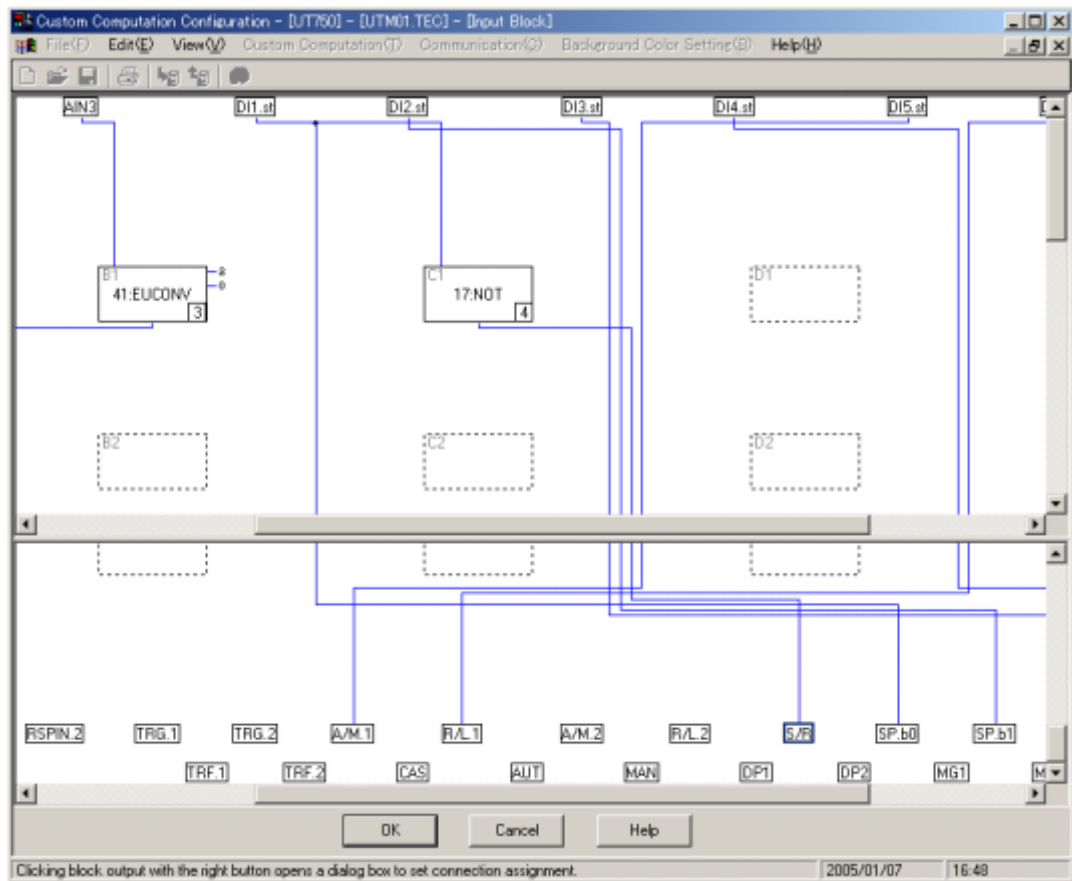
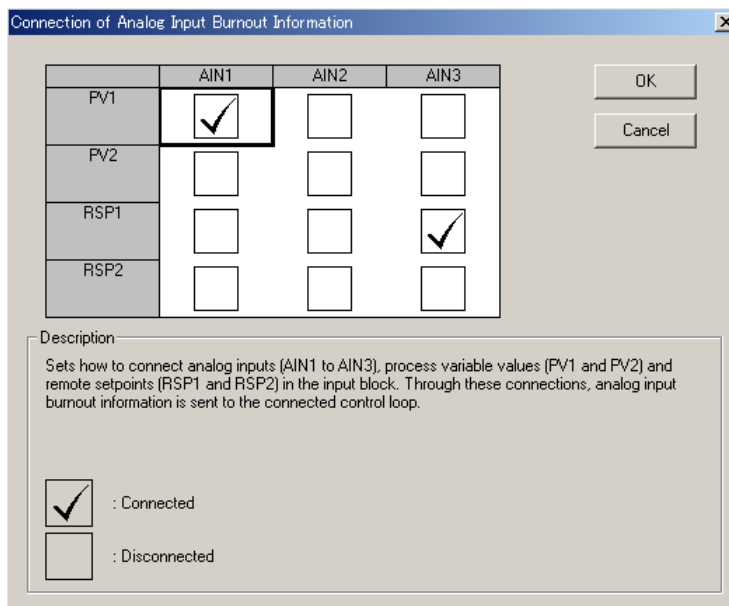

Figure 4.2.16 Registration of a NOT Module in the Diagram of an Input Block for Single-loop Control (Finished View)
Figure 4.2.17 [Connection of Analog Input Burnout Information] Dialog Box
Figure 4.2.16 shows the input block with the configuration and setting of computation modules, as well as their connection to the control and computing block, completed.
- (7) Click the <OK> button (in the Figure 4.2.16) to display [Connection of Analog Input Burnout Information] dialog box (Fig.4.2.17). (Refer to the subsection 4.2.4, Step 2-4: Setting the Analog-input Burnout Function for more details.)
In the example shown in the [Connection of Analog Input Burnout Information] dialog box (Figure 4.2.17), AIN1 is coupled with PV1 and AIN3 with RSP1. This configuration switches the loop-1 MV output value to the preset one if a burnout occurs at either the AIN1 or AIN3 input.